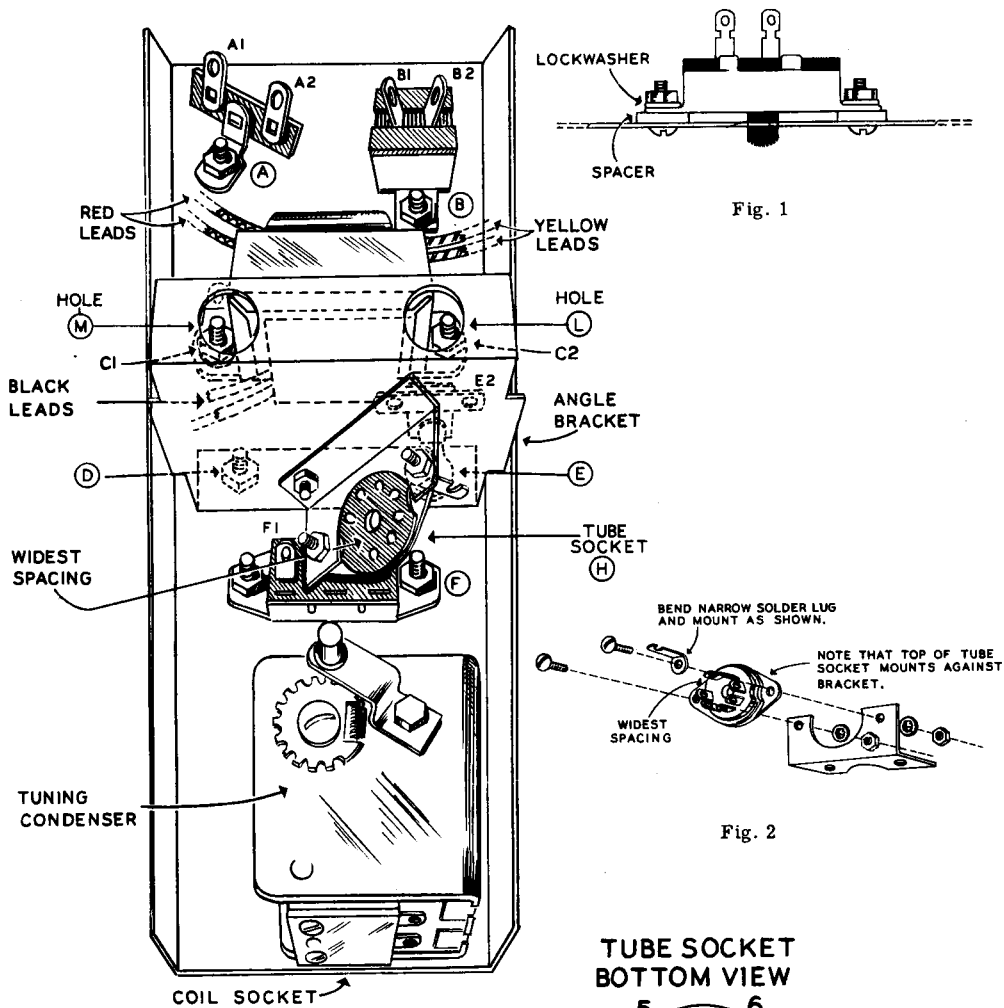

Fig. 1
- ( ) Mount the DIODE-OSC. switch in location F by means of two 6-32 screws, fiber washers, lockwashers, and nuts. Figure 1 shows how the washers are mounted between the bottom plate and the switch frame. Be sure the switch mounting is not reversed. Pictorial 2 clearly shows the mounting of this switch.